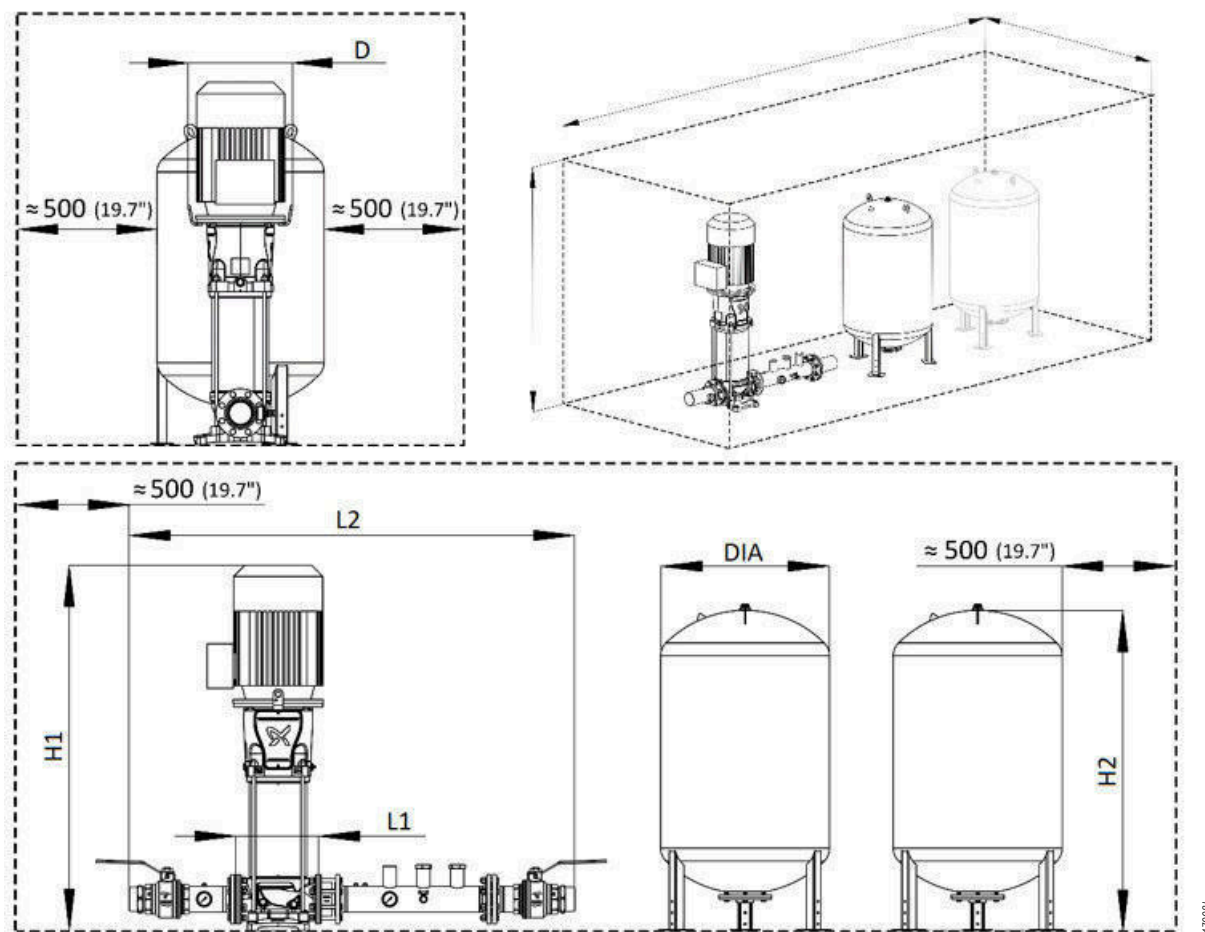

Figure 2 Typical installation with pump CR64 and 2 tanks HPT250-10
Refer to *Figure 2* and *Figure 3* and *Table 1* for typical dimensions of the pump unit, tank, and pump unit with the PAK mounting kit. Also, consult the Customised Documentation (CD). Ensure sufficient free space around the pump unit and tank for easy service and maintenance.